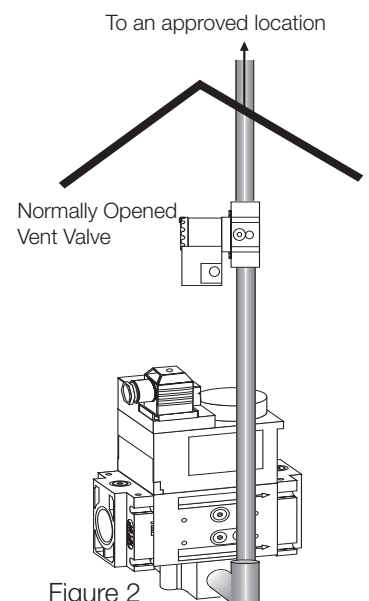

Figure 2
**!** The Vent Line must be properly installed. The use of a normally open vent valve is required. (see fig. 2)